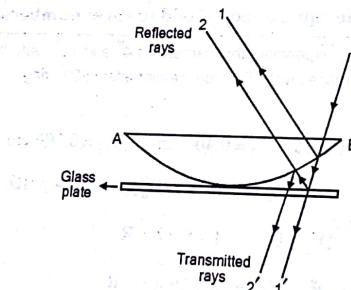

Fig. 1.10.1
- Newton's rings can be seen in reflected light as well as in transmitted light also. (As shown in Fig. 1.10.1). The ray 1' is transmitted directly through the air film while the ray 2' suffers two internal reflections (or a phase change of  $2\pi$ ) before emerging out.